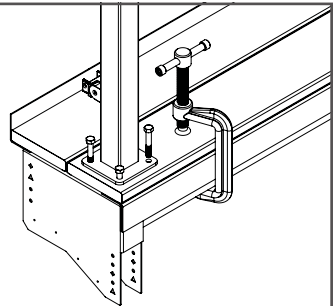

Fig. 88
8. Fasten bolts onto bottom of Stair Step using nuts and washers. As shown in Fig. 88.